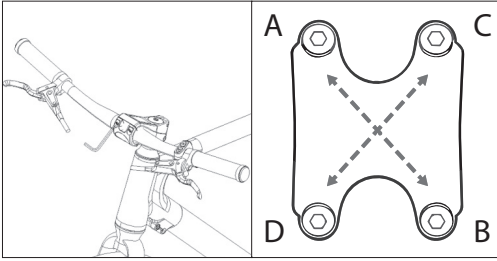

Figure 1-5
- Push the handlebars left and right to center them; rotate them slightly so that the brake levers are angled downwards. Then, gradually tighten the screws in an A-B-C-D sequence, as shown in **Figure 1-5**.